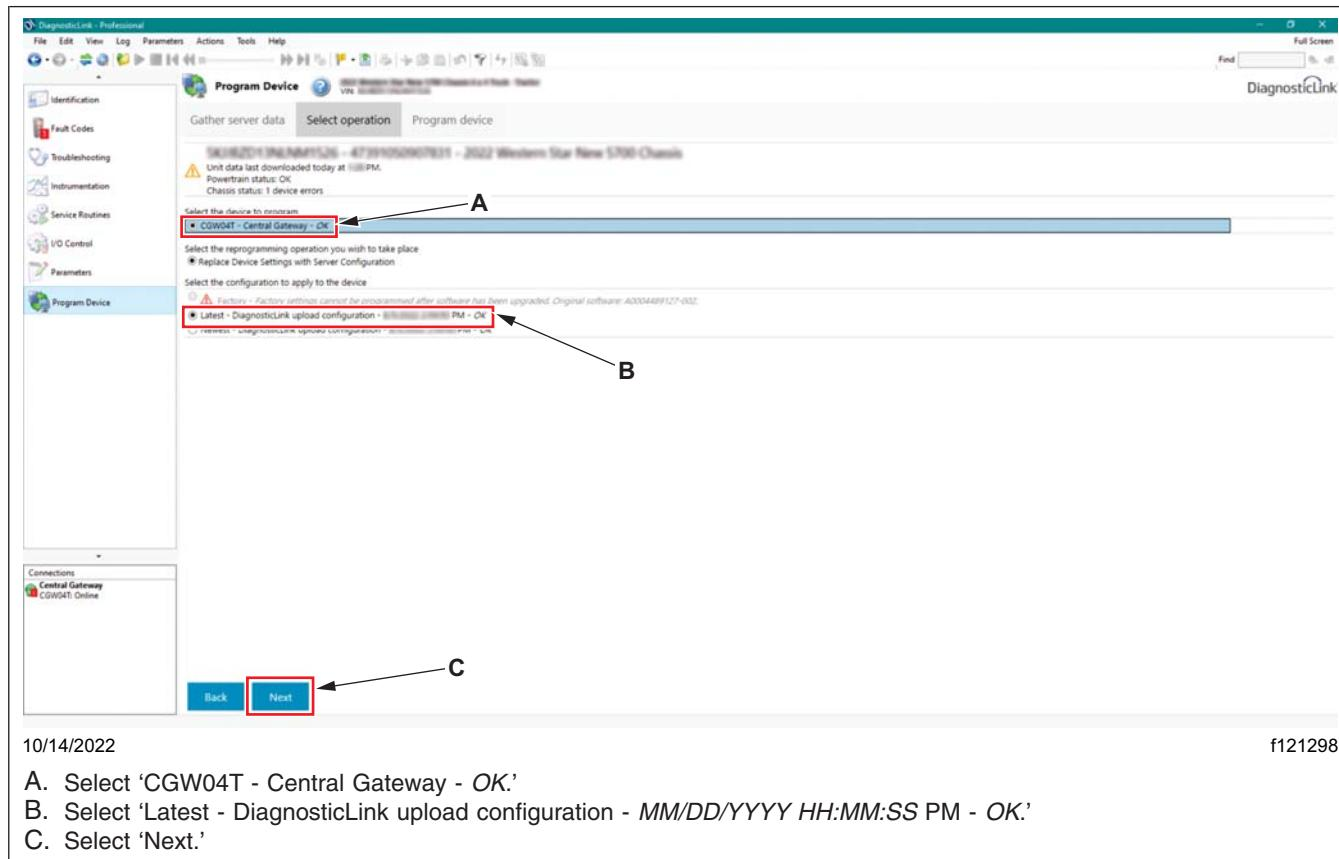

Fig. 15, Selecting the Device Configuration
- 21.1 Select 'CGW04T - Central Gateway - *OK*' as the device to program. See **Fig. 15**.
- 21.2 Select 'Latest - DiagnosticLink upload configuration - *MM/DD/YYYY HH:MM:SS PM - OK*' as the configuration to apply to the device. See **Fig. 15**.
- 21.3 Select 'Next.' See **Fig. 15**.